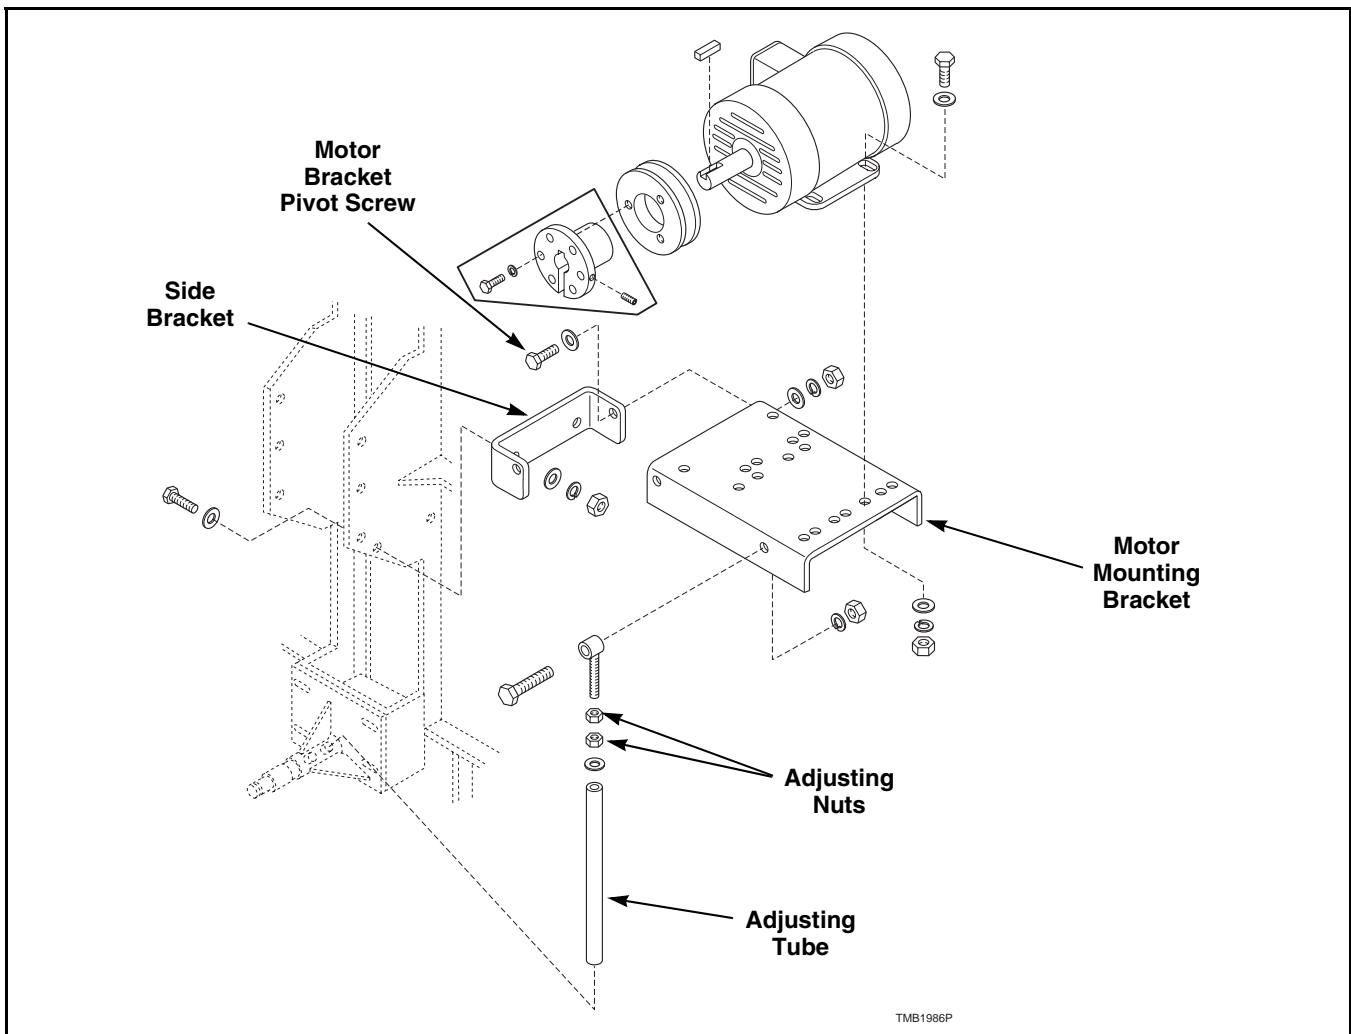

Figure 25
- b. Loosen the two motor bracket pivot screws. Refer to *Figure 25*.
- c. Turn the adjusting nuts clockwise until proper tension is reached. Refer to *Figure 25*.